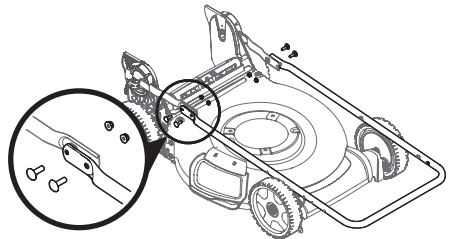

Figure 12
- Using the four carriage bolts and nuts removed in STEP 1, secure the upper handle to the lower handle. Tighten hardware securely to secure the handle in place (Figure 12).